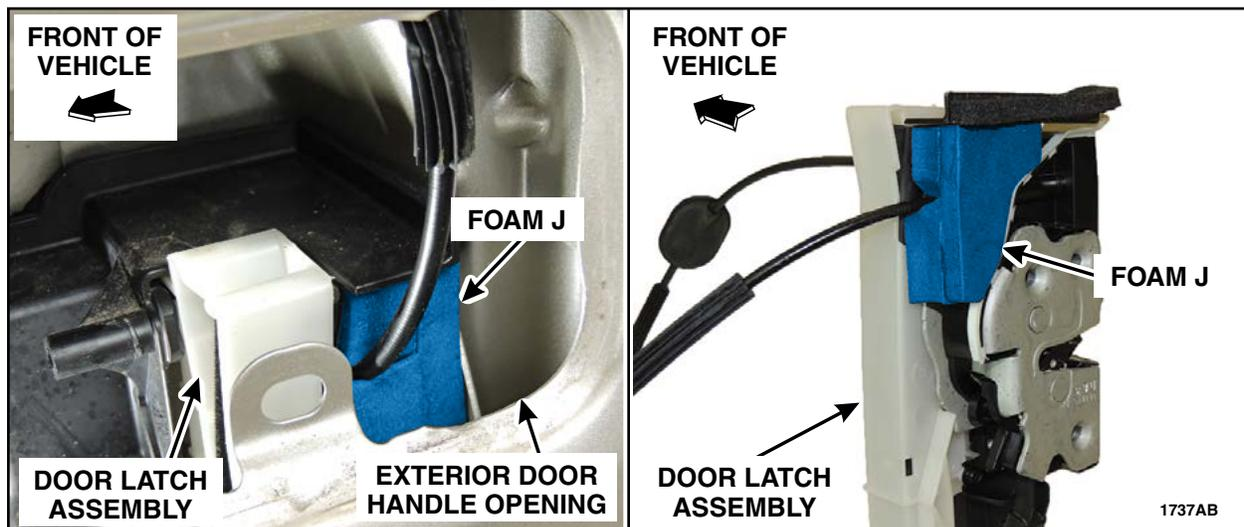

FIGURE 79
1. Install Foam J onto the rear door latch. See Figure 79.